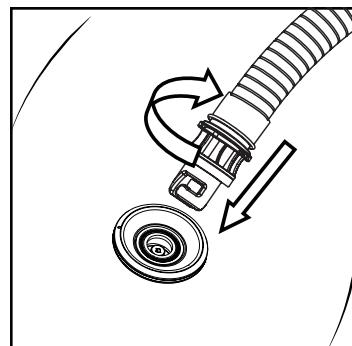

Fig. 2
- Connect the other end of the hose to the supporting air tap of the air bag, and twist clockwise to tighten it. Then insert the inflation valve of the air bag and twist clockwise to tighten it, as in Figure 2.